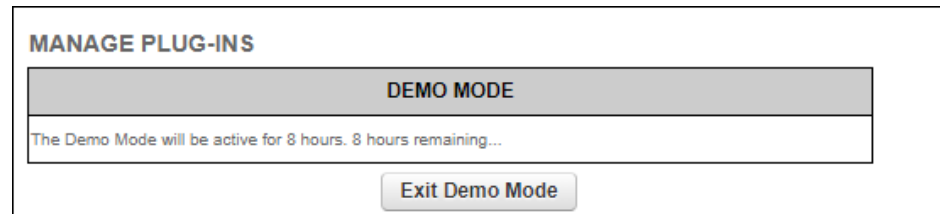

Figure 58. MANAGE PLUG-INS dialog (Demo Mode activated)
- The **Demo Mode** activation dialog will be shown (Figure 58 \(page 133\)). A countdown timer shows how much Demo time remains.